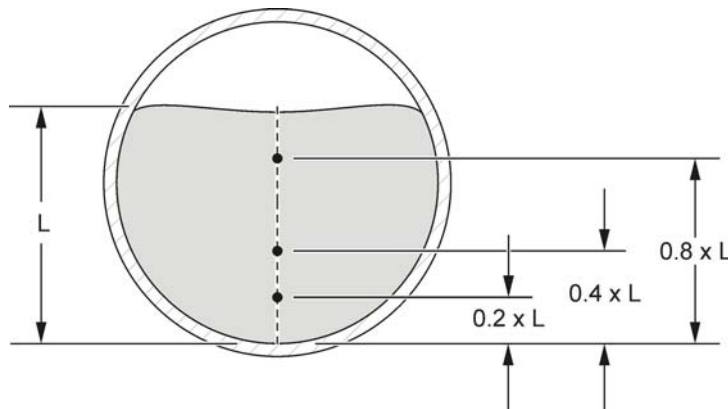

Figure 13 Measurement positions for .2, .4, and .8 method
3. Measure the velocities at the .2, .4, and .8 positions (Figure 13).